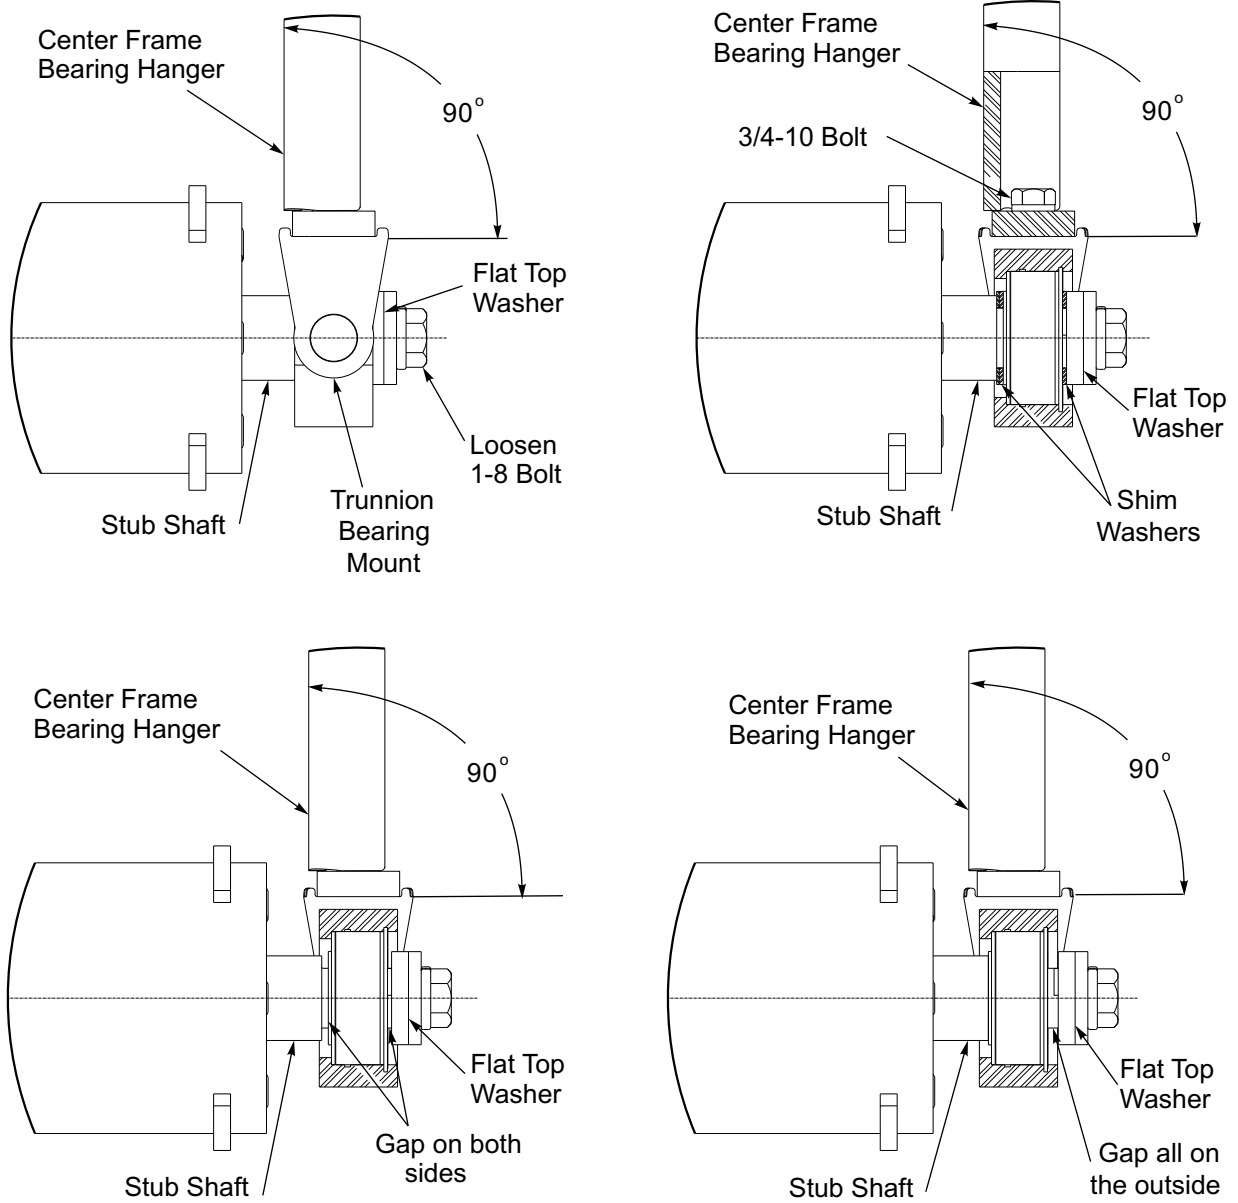

Figure 2-17: Trunnion Spacers
4. Look at each Trunnion Bearing Mount to make sure that it is sitting perpendicular to the Center Frame Bearing Hanger. If not adjust the Shim Washers accordingly, for each side there are two 11ga and one 14ga Shim Washers. Shim Washers can be all three on the inside between the Stub Shaft shoulder and the Trunnion Bearing, all three can be on the outside between the Trunnion Bearing and Flat Top Washer, or a combination on either side, but all three must be used to minimize the gap. If gap cannot be properly minimized with bearing snap rings to outside, turn bearing around to have snap ring to inside. The bearing inner race is offset with respect to the trunnion bosses by 1/32". By installing bearings with snap rings in versus out, 1/16" difference can be made up at assembly if needed. See **Figure 2-17.**